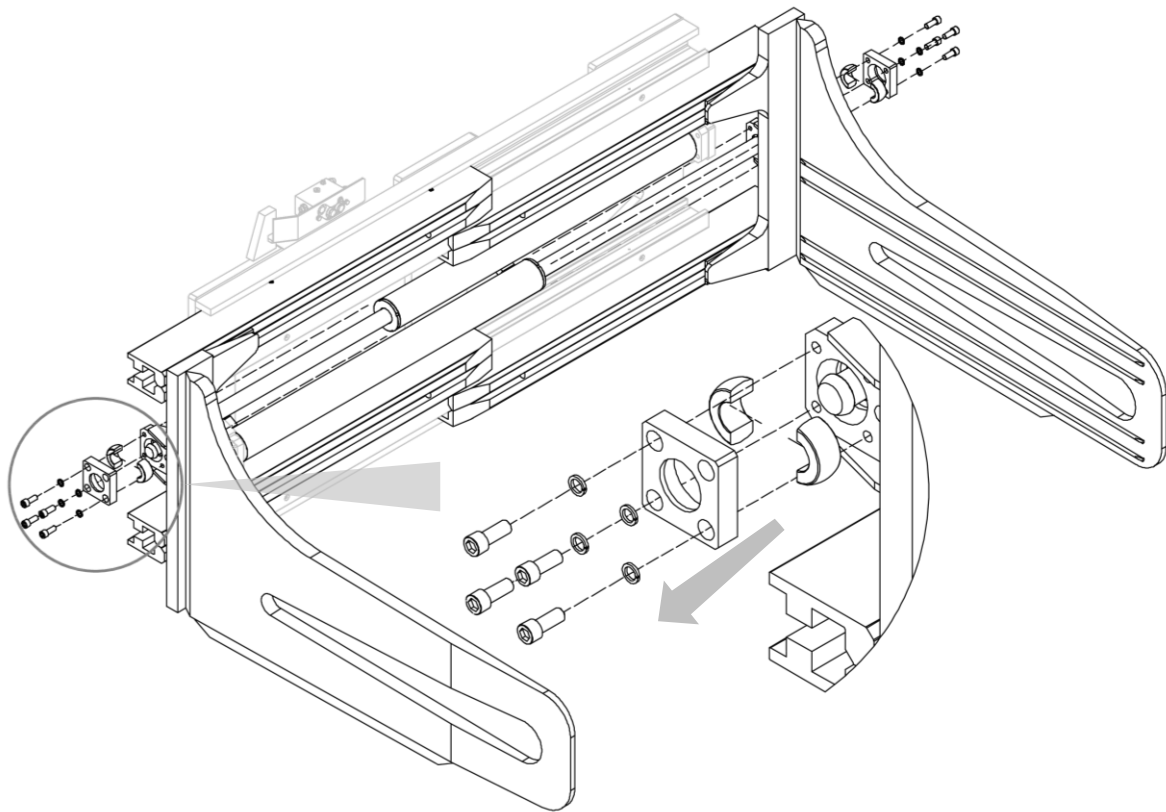

Figure 21
3. Remove the counterflanges and collars that secure the jaws to the cylinders (see *Figure 21*).